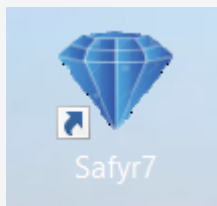

Figure 3: Safyr7 Desktop Icon
2. Select Safyr7 Software on the desktop (Figure 3) and the program will launch.